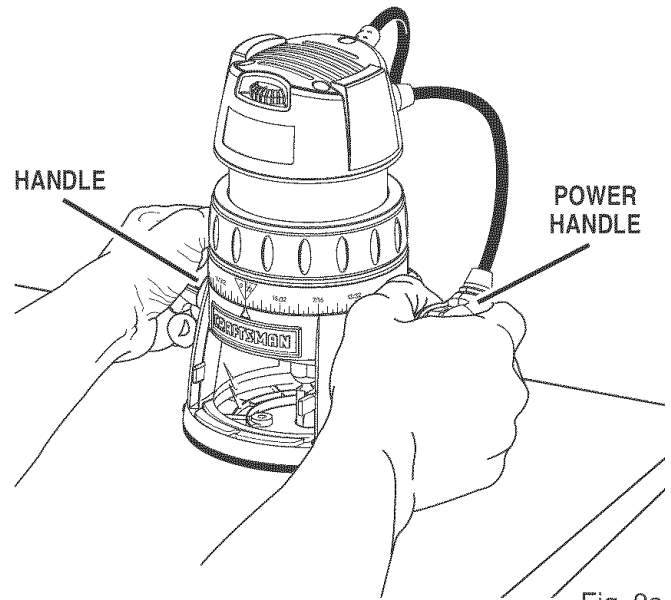

Fig. 9a
- Grasp handles using both hands. See Figure 9a.